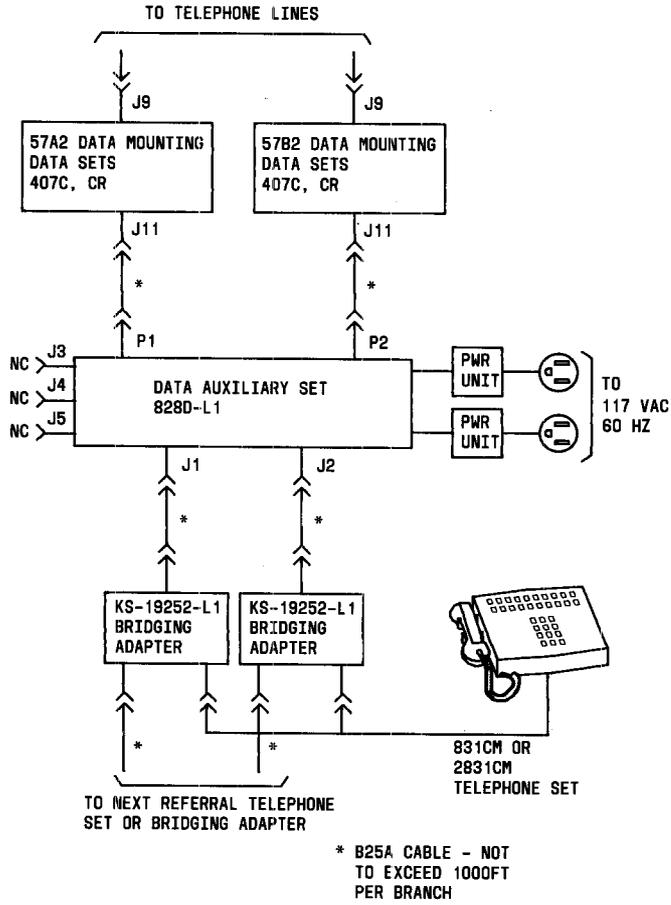

Fig. 8—407C or CR Data Station Arrangement Using 831CM or 2831CM Referral Telephone Set
4.09 Installation Using DS 407C or CR With 831CM or 2831CM Referral Telephone Set(s): Interconnect the DAS to the data station as shown in Fig. 8 using B25A cable. Mount the KS-19252-L1 bridging adapters and interconnect with the DAS using B25A cable. Connect the referral telephone set(s) to the bridging adapters.